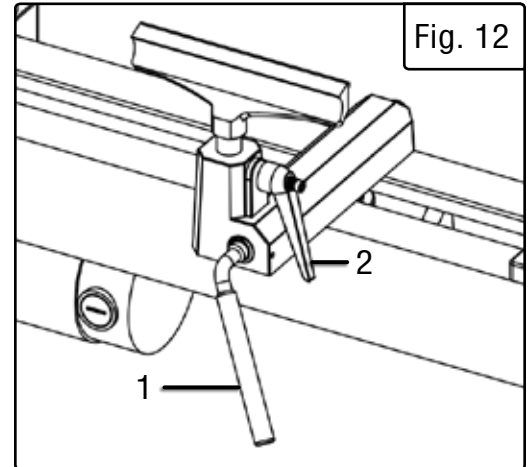

Fig. 12
1. Loosen the locking lever (Fig. 12 - 1) on the tool rest base to slide the base back and forth, side to side, or to adjust its angle. Tighten the locking lever firmly before operating the lathe.
2. Loosen the locking handle (Fig. 12 - 2) to raise and lower the tool rest or to adjust its angle. Tighten the handle before operating the lathe.